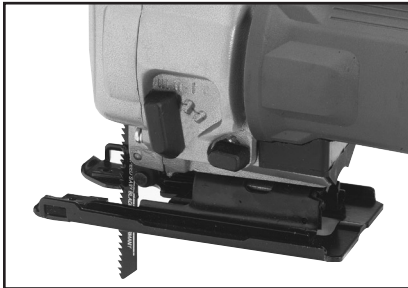

Figure 6. Blade teeth facing forward.
4. Twist the blade so the teeth are now pointing forward (see **Figure 6**), then pull it down slightly, to ensure it will not come out. Make sure the blade is positioned in the groove of the roller that backs up the blade.